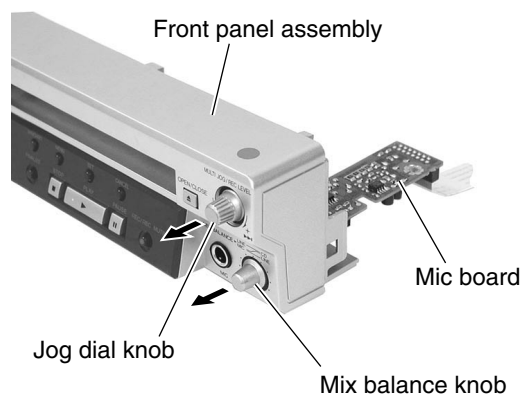

Fig.22
■ Removing the mic board / jog dial board (See Fig.22 to 24)